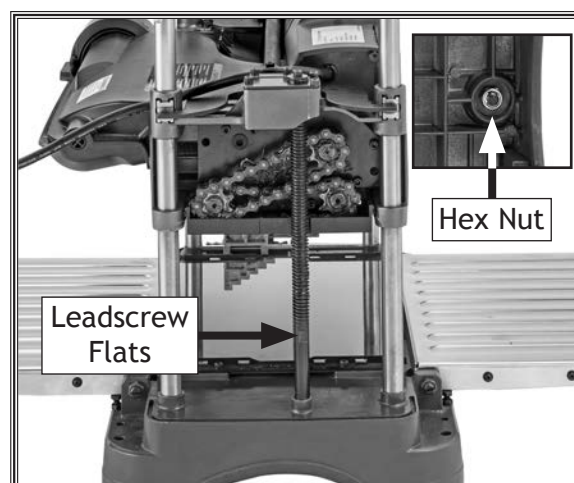

Figure 31. Location of leadscrew flats and hex nut.
3. Remove M10-1.5 lock nut from base of lefthand leadscrew (see **Figure 31**).
7. Use 12mm open-end wrench on leadscrew flats (see **Figure 31**) to raise or lower headstock until cutterhead evenly touches wood blocks.